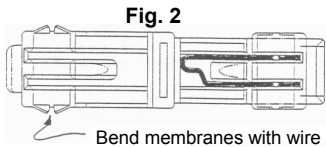

Fig. 2
For 14-12 AWG wires, refer to Fig. 2, 3, and 1.
1. Bend the wire support membranes outward with wire (Fig.2)